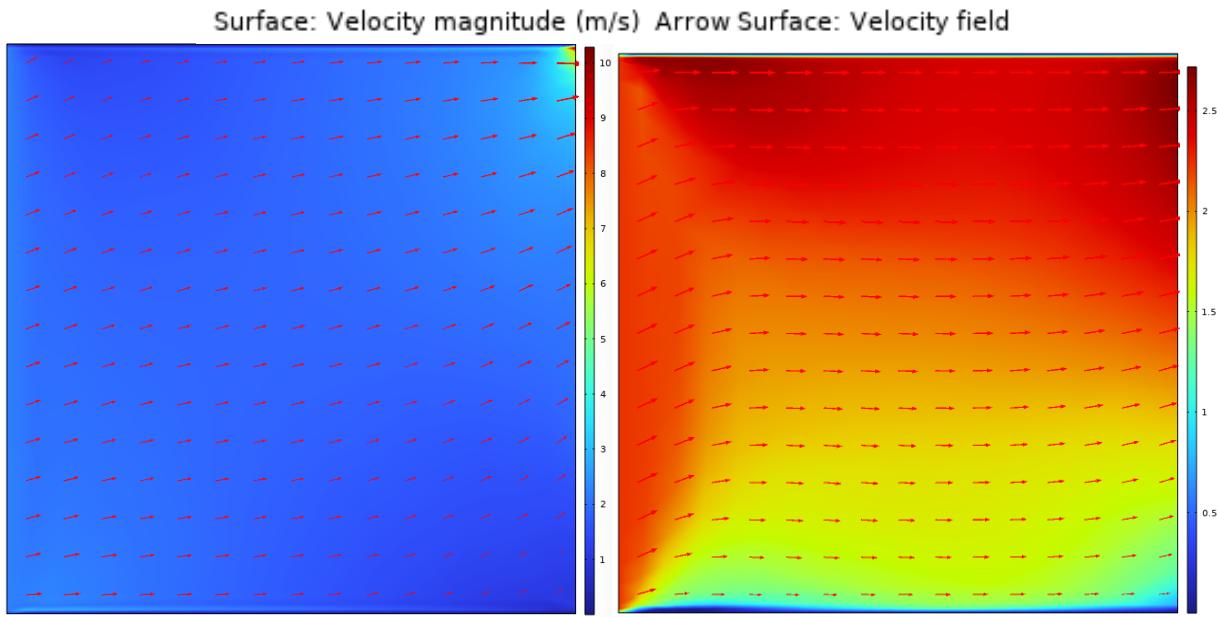

Figure 5. Expected unit test output, Q4. **Left:** Velocity field and magnitude, $t = 0$ seconds. **Right:** Velocity field and magnitude, $t = 1$ second
- Plot the velocity magnitude and velocity field. Your result should look similar to the plots in Figure 5.